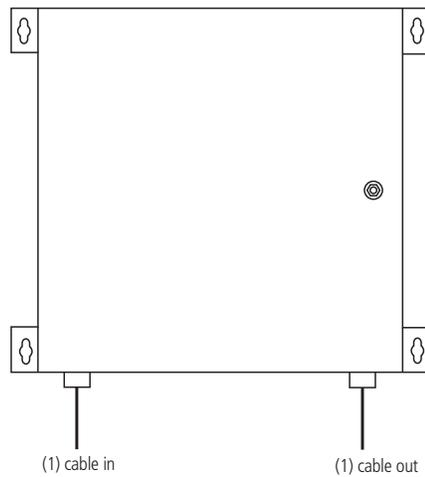

Figure 3. One cable in/one out configuration.
7. Slide the fiber cable through the watertight seals. Then tighten the seal so the rubber gasket is secure around the cable trunk. The NEMA Rated Fiber Optic Wallmount Enclosure supports one fiber cable going into and one fiber cable going out of the enclosure. See Figure 3.